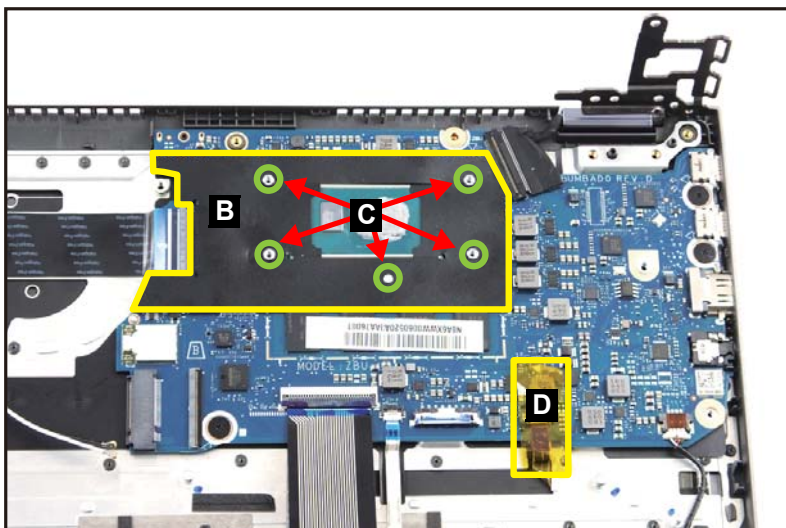

Figure 1-31. Mainboard Removal
4. Gently peel off the mylar (B) from the mainboard. While detaching the mylar, be careful to release it from the guide pins (C) (Figure 1-31).
5. Detach the adhesive tape (D) securing the keyboard backlight FPC (Figure 1-31).